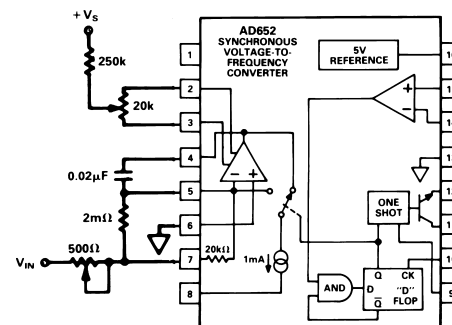
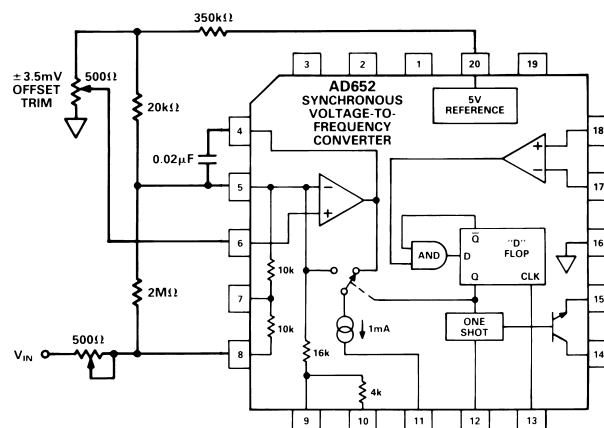

Figure 10a. Cerdip Gain and Offset Trim
Figure 10b. PLCC Gain and Offset Trim
adjustment is then accomplished using a 500 Ω series trimmer. See Figures 10a and 10b. When negative input voltages are used, this 500 Ω trimmer will be tied to ground and Pin 6 will be the input pin.
The offset of the op amp may be trimmed to zero with the trim scheme shown in Figures 10a for the cerdip packaged device and Figure 10b for the PLCC packaged device. One way of trimming the offset is by grounding Pin 7 (8) of the cerdip (PLCC) packaged device and observing the waveform at Pin 4. If the offset voltage of the op amp is positive, then the integrator will have saturated and the voltage will be at the positive rail. If the offset voltage is negative, then there will be a small effective input current that will cause the AD652 to oscillate and a sawtooth waveform will be observed at Pin 4. The trimpot should be adjusted until the downward slope of this sawtooth becomes very slow, down to a frequency of 1 Hz or less. In an analog-to-digital conversion application, an easier way to trim the offset is to apply a small input voltage, such as 0.01% of the full-scale voltage, and adjust the trimpot until the correct digital output is reached.